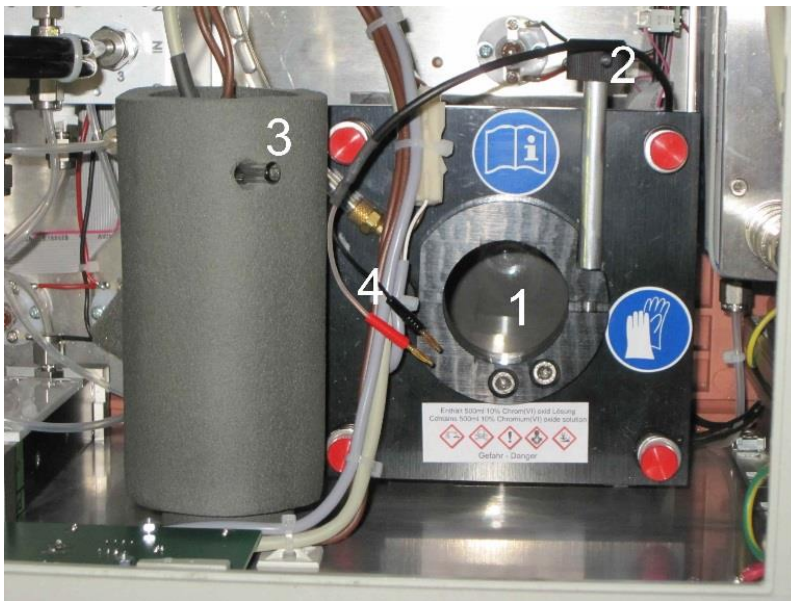

Figure 10
450 ml of chromium (VI) oxide solution is prepared using the funnel (No. 1 Illustration 1) into the tank (No. 1 Figure 10).
Now carefully lock the detector in place with the adjusting screw (No. 2 Figure 10) of the fixing ring.
Next, insert the detector feed into the detector and screw it tight. The end of the flexible tube is simply inserted into the outlet of the separation column (No. 3 Figure 10).
Now plug in the red and black plugs (No. 4 Figure 10) into the detector.